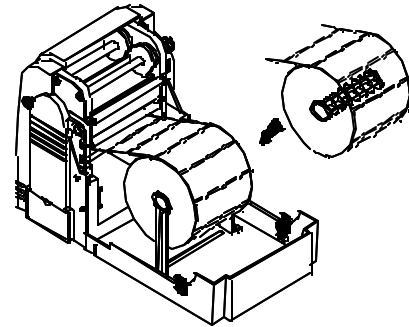

Fig. 2.3.3
3. Remove the label roll stands (part 10). Vertically place the two stands along the left side and right side of the back cover (see Fig. 2.3.3).
4. Place the large-size label roll on the stands (see Fig. 2.3.3).